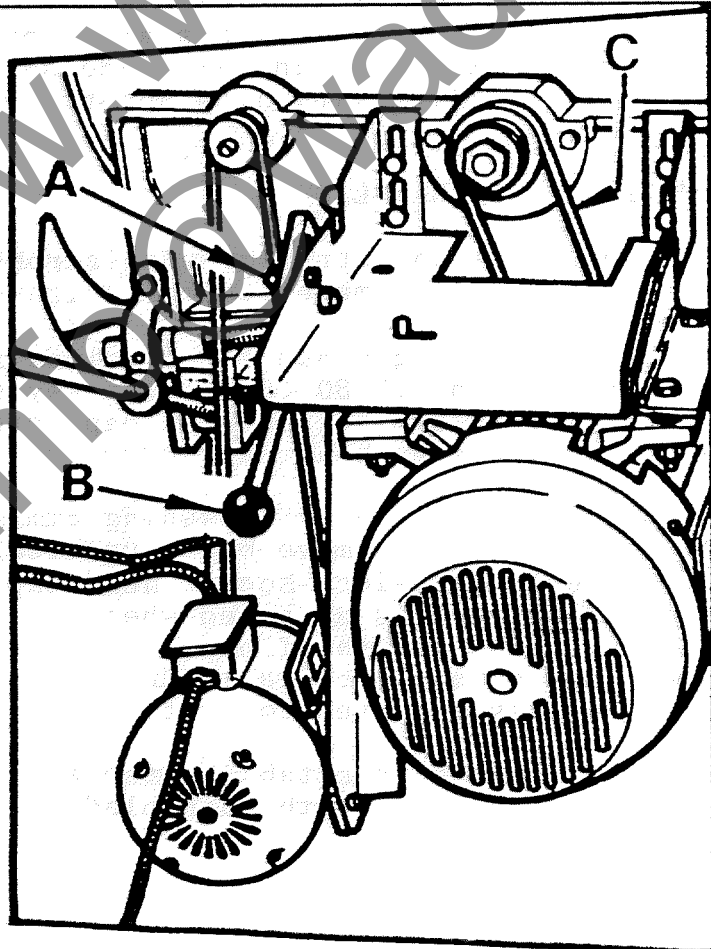

FIG. 32.
3. Loosen aerotight nut "A" in FIG.32 and move handle "B" to release belt tension. Hold motor in this position and securely re-tighten nut "A".
5. When belt has been change, hold handle "B" in FIG.32 and loosen aerotight nut "A" then pull handle "B" to apply tension to belt.